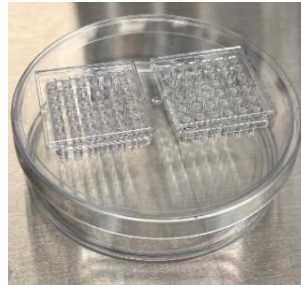

Figure 1. Hydration of the pillar plate surface in a 90 x 15 mm petri dish with 500 µL of sterile, distilled water to minimize air bubble entrapment.
5. Hydrate the surface of the pillar plate by inserting two 36PillarPlates in the 36PetriLid on a 90 x 15 mm petri dish containing 500 µL of sterile, distilled water and placing it in a 5% CO₂ incubator at 37°C for 20 - 30 minutes (**Fig. 1**).